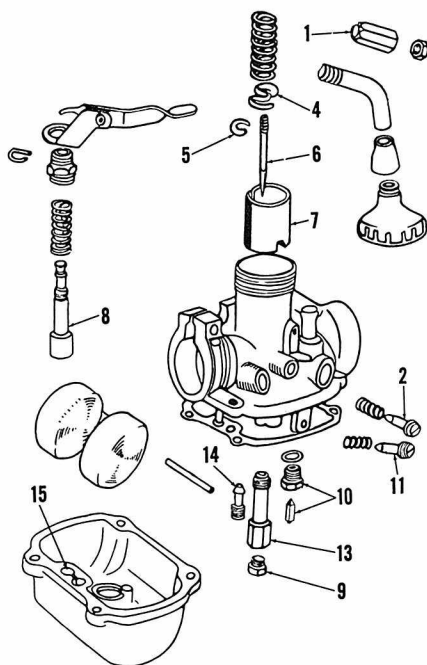

Fig. BS1-1—Exploded view of typical carburetor used on HM/S, 7D and 7S models.
**CARBURETOR.** Idle speed is adjusted at screw (2—Fig. BS1-1) and idle mixture at needle (11). Approximate setting for idle mixture needle (11) is 1 turn open for HM/S, 2 turns open for 7D and 7S. Normal position of clip (5) is in second groove from top of valve needle (6). Normal size of main jet (9) is 70 for HM/S and 80 for 7D and 7S.